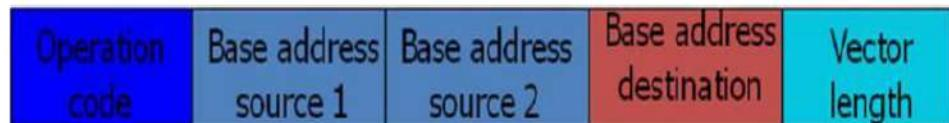

Fig 4-11: Instruction format for vector processor
- A possible instruction format for a vector instruction is shown in Fig. 4-11.